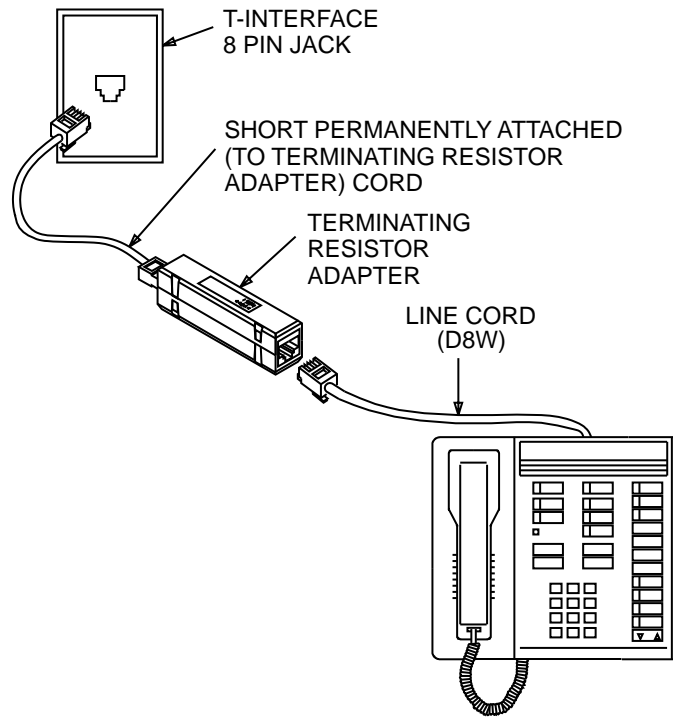

FIGURE 6-6. 7505/7506/7507 Installation Using a Terminating Resistor Adapter Only
11. Refer to Figures 6-6 through 6-9 to determine how to connect your terminal to the network. Consult your System Manager to determine what is appropriate for you. "Centrally located" devices are located away (usually in an equipment room or a closet) from where the terminal is being installed and therefore are not included in each figure. A more detailed description of the NT1 and power supply is given in the **Overview of Equipment** section.
Use the configuration shown in Figure 6-6 when the NT1 (not required for DEFINITY Communications System) and the bulk power supply are provided in a central location or if a T-interface is provided by the serving switch.